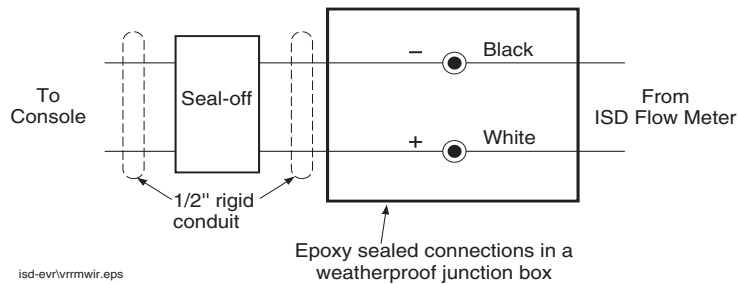

Figure 2. Field wiring Vapor Flow Meter - Observe Polarity
14. Connect the wires from the Vapor Flow Meter to the field wiring from the console and cap with wire nuts (see Figure 2). Not required when connecting to the TLS RF transmitter (W2).
11. Route the wiring into the junction box via the supplied cord grip assembly. Connect the wires from the Vapor Flow Meter to the field wiring from the console and cap with wire nuts (see Figure 2) - OR - connect the wires to the TLS RF transmitter (W2).